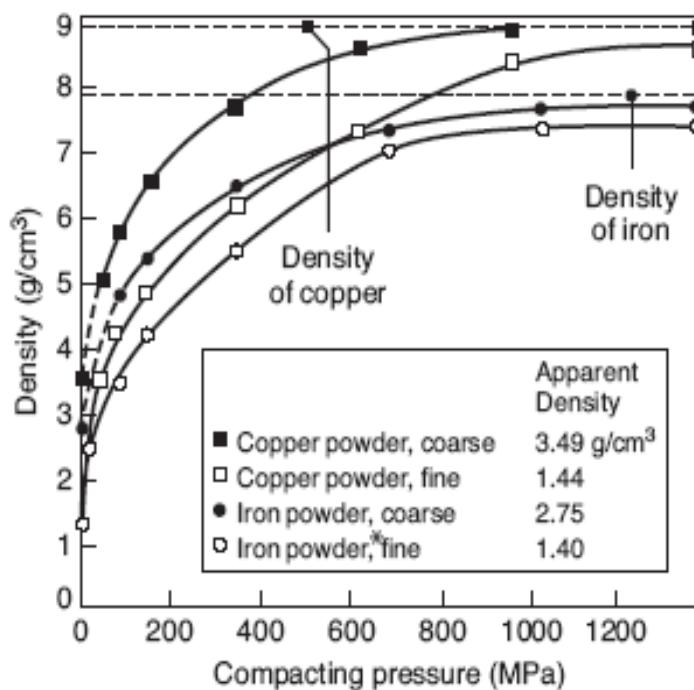

Figure Q3[b]
- [b] A gear is to be manufactured from iron powder. It is desired that it has a final density 90% that of cast iron, and it is known that the shrinkage in sintering will be approximately 5%. For a gear that is 65 mm in diameter and has a 20 mm hub, as referred to Figure Q3[b], obtain the required press force. The density of cast iron is approximately 7.6 g/cm³.